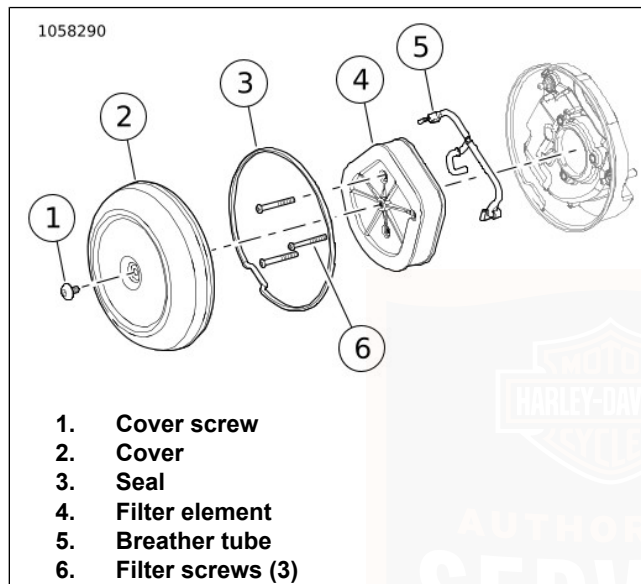
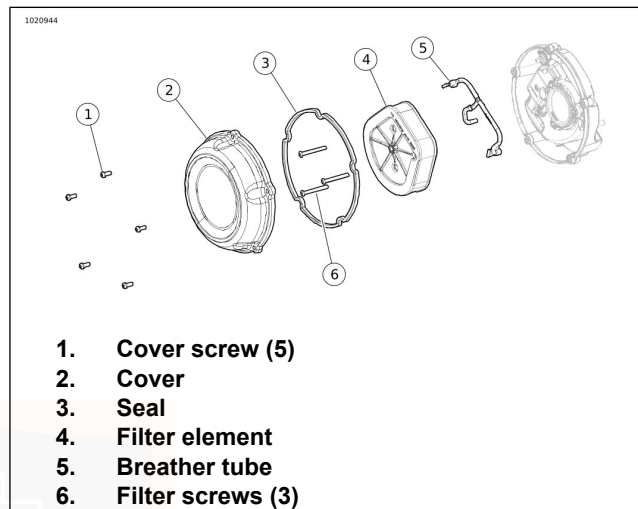

Figure 68. Air Cleaner: Single Screw
Figure 69. Air Cleaner: Five Screw
1. See Figure 68 or Figure 69. Remove air cleaner cover.
- a. Remove screws (1).
- b. Remove cover (2).
- a. Remove screws (6).
- b. Remove filter element (4) while pulling breather tube (5) from element.
3. Remove breather tube (5) from breather bolts.
1. See Figure 68 or Figure 69. Install filter element.
- a. Install breather tube (5) onto breather bolts.
- b. Install filter element (4) while pushing breather tube into element.
- c. Install screws (6). Tighten. 5.4–8.1 N·m (48–72 **in-lbs**)
2. Verify that rubber seal (3) is properly seated and not damaged. Replace if necessary.
- a. Apply LOCTITE 243 MEDIUM STRENGTH THREADLOCKER AND SEALANT (BLUE) (99642-97) to threads of screw (1).
- b. Install cover (2).
4. Install screw (1).
- b. **Five-screw cover:** Install screws (1). Tighten in a star pattern. 5.4–8.1 N·m (48–72 **in-lbs**)